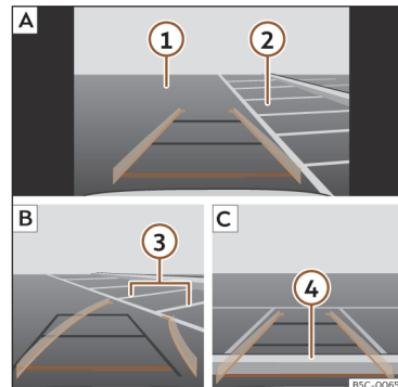

Fig. 152 Display on the infotainment system screen: parking with the reverse assistant.
Key to the >>> **Fig. 152**:
- Stop the vehicle in front of the parking space **>>> Fig. 152 ② [A]**.
- Reverse while turning the steering wheel so that the yellow lines enter the parking space. The green and yellow lines must match the side boundary lines **③ [B]**.
- Stop the vehicle when the red line has reached the rear boundary **④ [C]**.